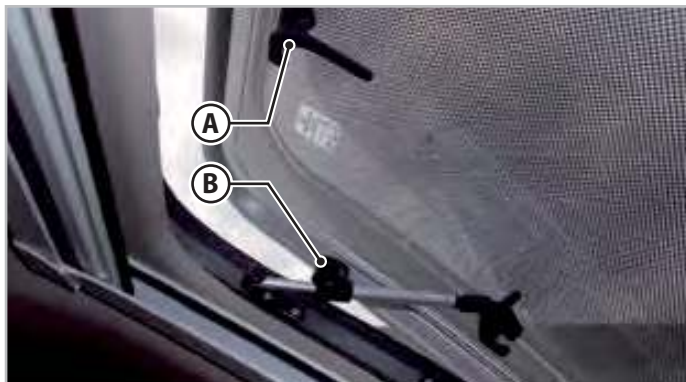

Fig.6.9 - Panoramic skylight
1. Turn the levers (**A** - Fig.6.9) to the vertical position.
3. Lock the skylight by tightening the knobs (**B** - Fig.6.9) on the telescopic arms.
1. Loosen the knobs **(B - Fig.6.9)** on the telescopic arms.
3. Lock all the levers **(A - Fig.6.9)**.